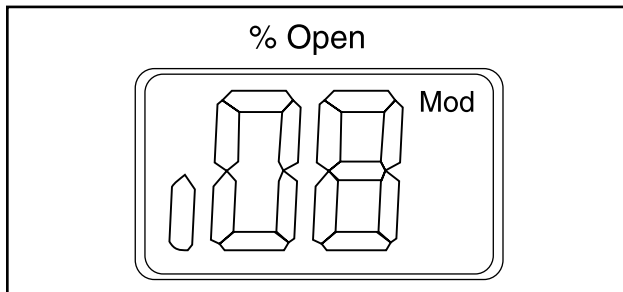

Figure 24
- Gives access to the Parameter list by keeping the push button activated for 2 seconds. A Parameter list example is shown below (parameter **i08**, Figure 24).